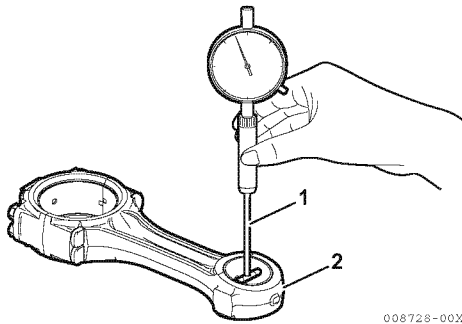

Figure 6-79
1. Measure the wrist pin bushing bore using a bore gauge (1, **Figure 6-79**). Replace the bushing if not within specifications. If the bushing has been removed, measure the inside diameter of the connecting rod small end (2, **Figure 6-79**). See *Connecting Rod* on page 6-13 for specifications.